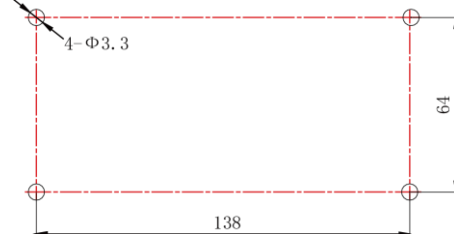

Fig. 3.9 Installation Holes of the Electric Box Rear Cover
- 2) In case that the centralized controller is installed inside the control cabinet, dig 4 installation holes on the surface of the control cabinet according to fig.3.9.
- (4) In step (1), pull out the power core and communication cord, and then lead them separately from the wire orifice of the electric box rear cover. Never lead the cords through a same orifice.
- (5) In step (2), locate the electric box rear cover to the installation holes of the wall with screw $\text{ST}4.2 \times 16 \text{ FA}$.
- (6) In step (6), pull out the wire connecting the touch screen and controller's rear cover. Put the touch screen on a safe place.
- (7) In step (7), connect the communication cords to G1, G2 terminals, and connect the neutral wire and live wire to the N, L terminal; connect the ground wire to position  on the electric box rear cover. Secure it with screw $\text{M}4 \times 12$.
- (8) In step (8), locate the controller's rear cover onto the electric box rear cover with screw $\text{ST}4.2 \times 9.5 \text{ TC}$.
- (9) In step (9), connect the wire between touch screen and controller's rear cover.